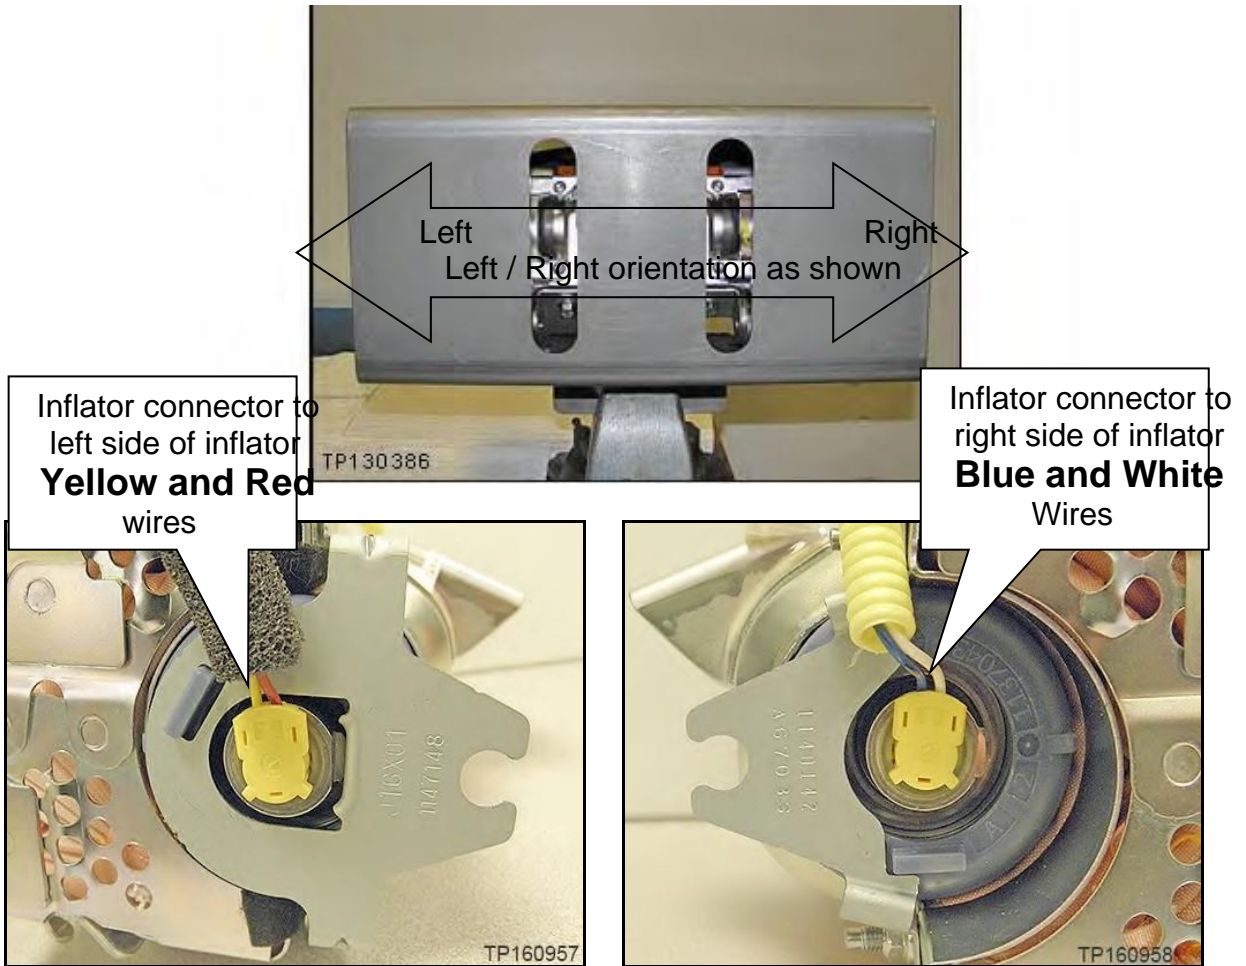

Figure 53
- **Make sure to attach the connectors to the correct ends of the inflator (see Figure 53).**
- Remove the dust proof stickers covering the ends of the inflator. □ Refer to Figures 53, 54, and 55.